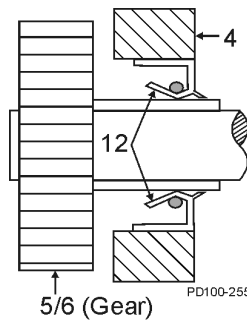

Figure 294 - Orientation of Oil Seal
2. Press the new oil seal (Figure 294, item 12) into the gear case cover (item 4) flush with the outside face, with the spring facing in.